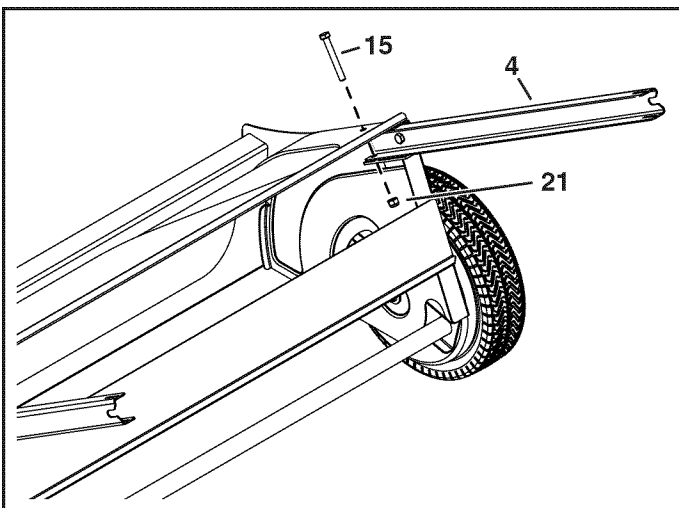

FIGURE 2
### STEP 2: (SEE FIGURE 2)
- Slide the bag arm channels (4) into the sweeper housing as shown in figure 2. Secure them to the sweeper housing with a 5/16-18 x 2-1/2" hex bolt (15) and 5/16" nylock nut (21). Tighten bolt until snug. **Do not overtighten.**